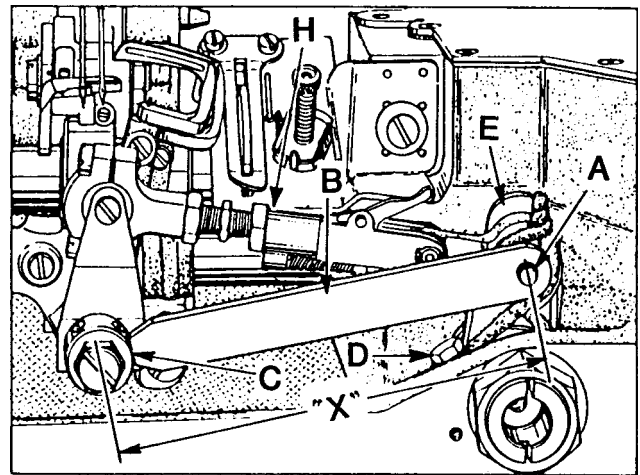
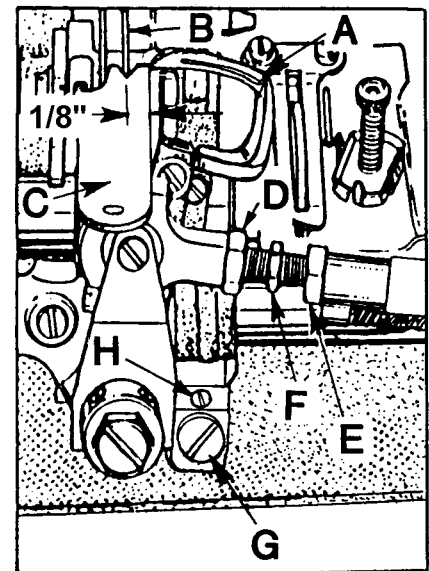

Fig. 6
Fig. 7
Turn handwheel in operating direction until looper is at the extreme right end of its travel. Check location of the center-line of right looper connecting rod bearing using gauge TT35. Place hole in gauge (B, Fig. 6) over threaded stud (A). The left end of gauge should locate against the RIGHT side of looper rocker cone (C). If adjustment is necessary, loosen clamp screw (D), reposition looper driver lever (E) as required and retighten screw (D). If a gauge is not available, the setting can be checked with a scale. "X" dimension is from centerline of stud (A) to centerline of cone (C) which should be 4 1/16 inch (103.2mm).
**CAUTION:** After adjusting the looper gauge and looper avoid, there should be shake at both end points of the looper connecting rod while rotating handwheel a full 360° (H, Fig. 6). If bind occurs loosen nuts (D and E, Fig. 7) and reposition strap (H). Retighten nuts.
Insert a new needle, type and size as specified. Using the 1/8 inch (3.2mm) looper gauge, set the looper (A, Fig. 7) so the distance from the center of the needle (B) to the point of the looper is 1/8 inch (3.2mm), when the looper is at its farthest position to the right.
If adjustment is necessary, loosen lock screw (G, Fig. 7) and turn stop screw (H) as required. Turning stop screw clockwise sets the looper to the rear and turning it counterclockwise acts the reverse. Holding looper to the front while making this adjustment may prove helpful. Tighten lock screw when setting is obtained and recheck the adjustment.